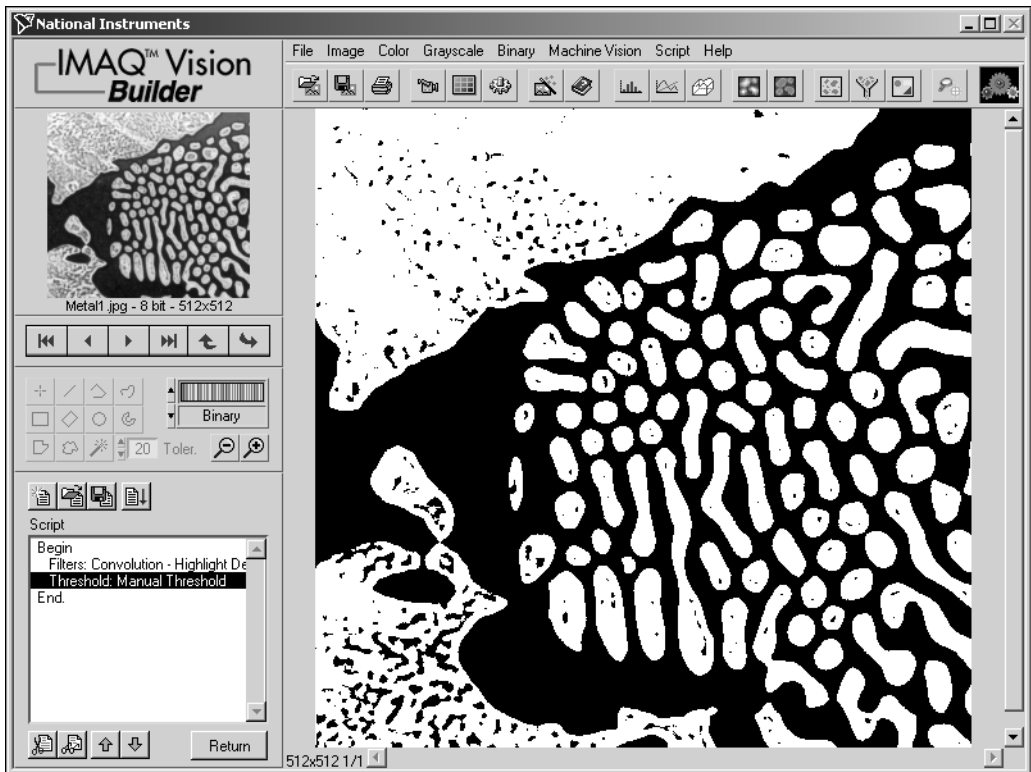

Figure 3-3. Separating Particles from the Background with Thresholding
4. Click **OK** to apply the threshold and add this step to the script. Figure 3-3 shows the thresholded image. The pixels that you selected for processing appear red. Unselected pixels appear black.